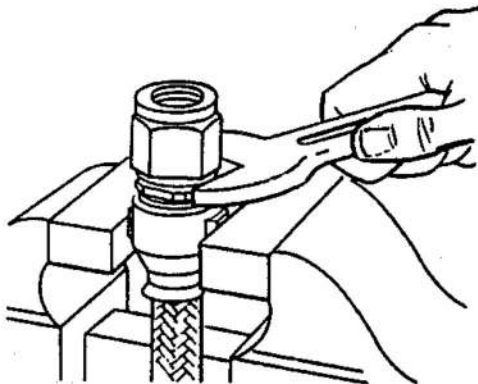
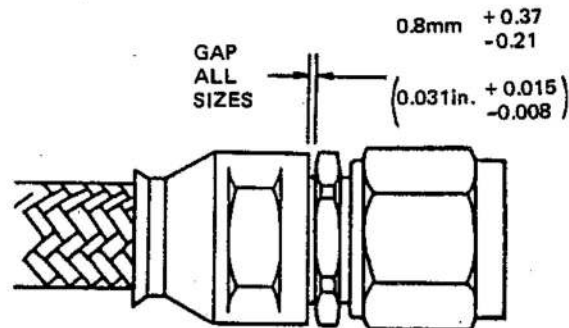

Fig. 6 Tightening up the nipple
Fig. 7 Nipple gap
5.7 With the nipple held in a vice push the hose onto the nipple until the sleeve is bottomed against the nipple chamfer. Slide the sockets forward and thread onto the nipple by hand. Remove the assembly, place the socket in the vice and, as shown in Fig. 6, use a wrench on the nipple hexagon to tighten the nipple to a nominal gap of 0.8 mm (0.031 in.) as shown in Fig. 7.